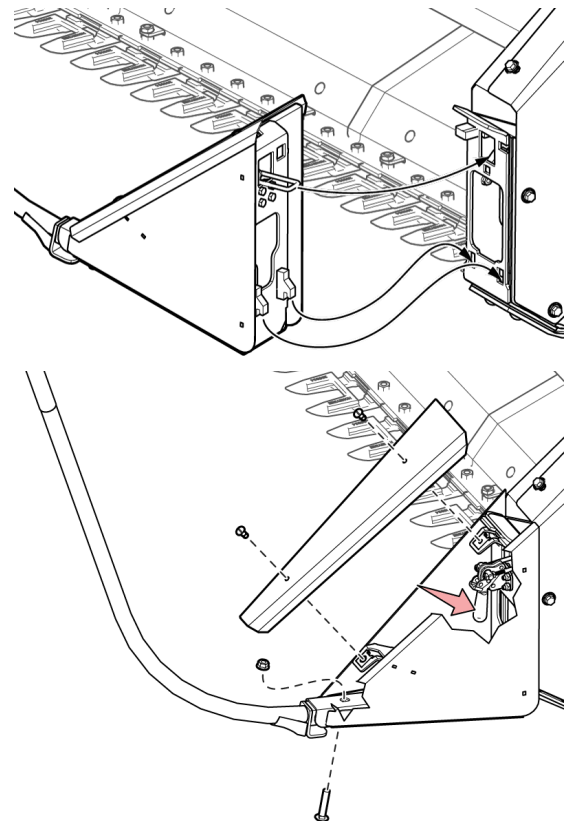

Fig. 41 - Install Crop Divider
Ensure the crop dividers are properly installed & free from material buildup. (See Fig. 41 on page 35)
- Ensure the crop dividers are properly installed & free from material buildup. (See Fig. 41 on page 35)